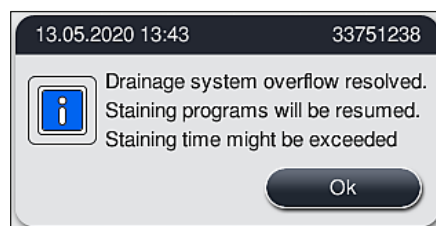

Fig. 121
- ✓ If the blocked water drains, another message on the display (→ "Fig. 121") informs the user that staining programs can be continued. Press **Ok** (→ "Fig. 121") to continue.
1. If the further cleaning attempts are successful and the blockage could be removed, the water level falls below the critical level. A message on the display (→ "Fig. 121") informs the user that staining programs can be continued. Press **Ok** (→ "Fig. 121") to continue. The startability of the programs is displayed and the programs in the process continue automatically.